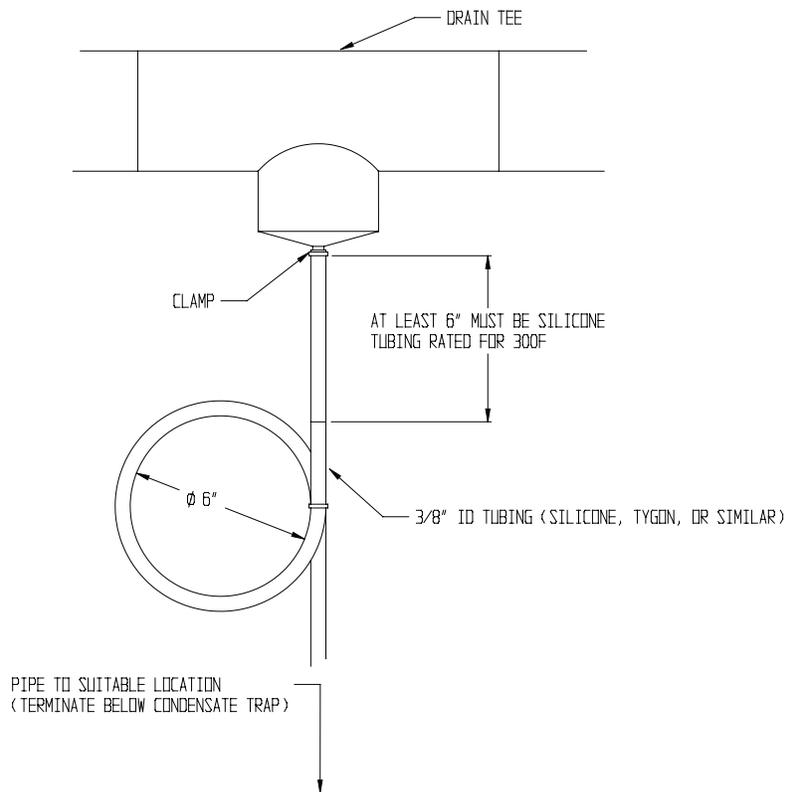

FIGURE 6.21: CONDENSATE TRAP/DRAIN DETAIL
- a) Trap should have the basic configuration shown in Figure 6.21. All tubing is 3/8 I.D.